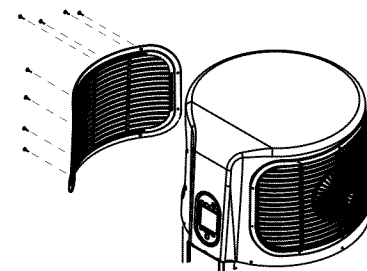

FIGURE 13.
6. Remove the left louvered access panel (when facing the water heater) by loosening the screws securing it to the water heater (Figure 13).